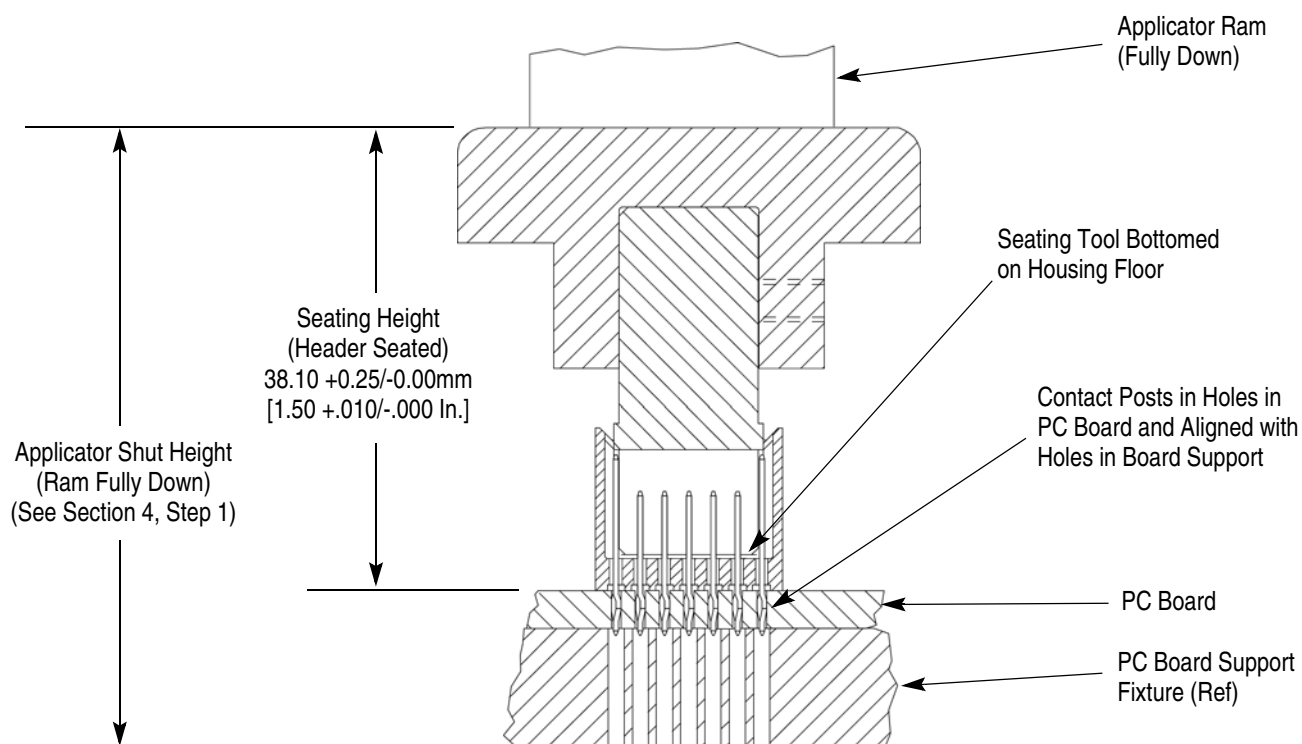

Figure 3
1. Set seating height to the dimension shown in Figure 3 (applicator shut height will equal the seating height PLUS the combined thicknesses of the pc board and pc board support).
6. Cycle applicator ram according to instructions for the power source. Check assembly for proper seating using the requirements in Figure 3.